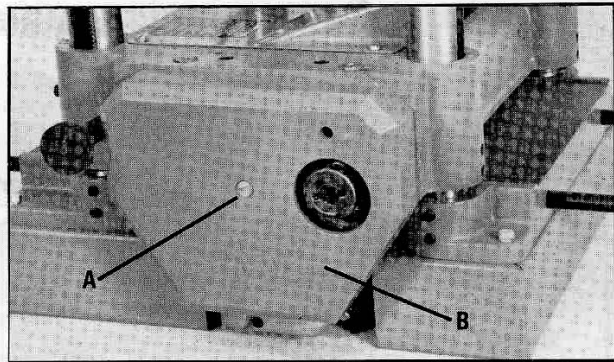

Fig. 17
1. Remove screw (A) Fig. 17, and gear box cover (B).